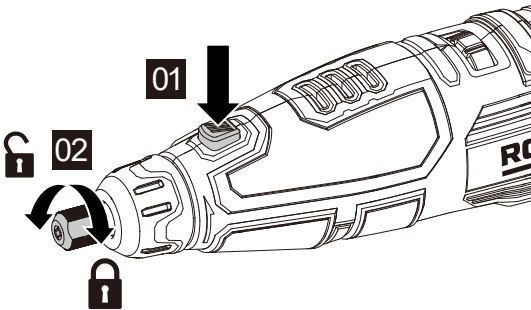

Figure 2-1
2. CHANGING THE COLLET (SEE FIG. 2-1 & 2-2)